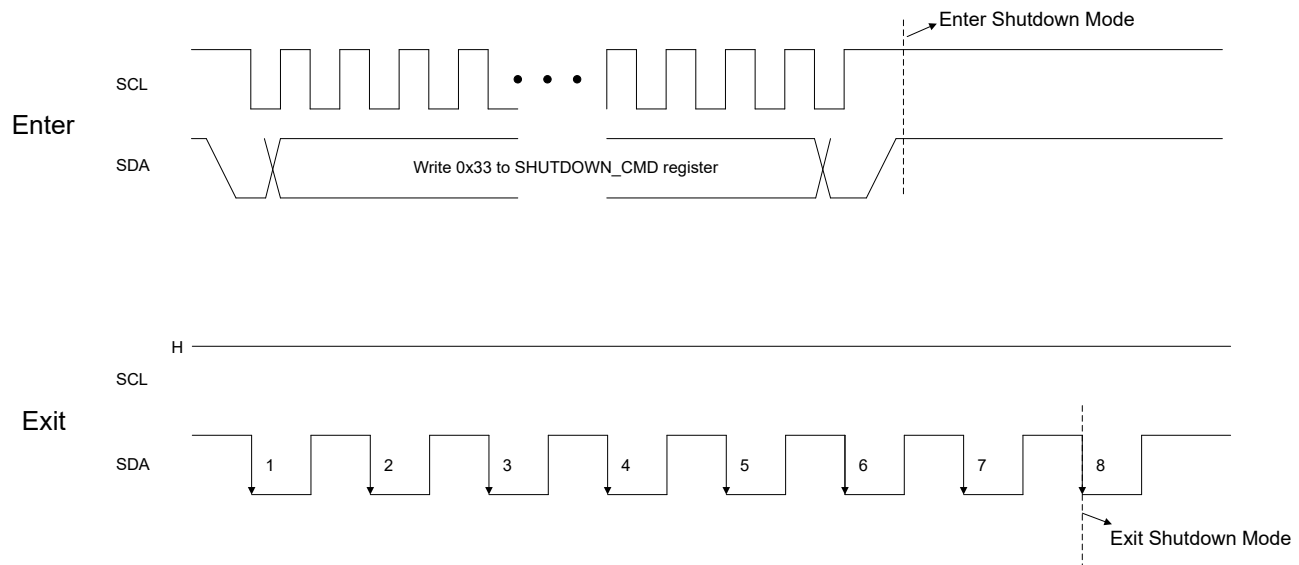

Figure 7-5. Enter and Exit Shutdown Mode Method Pair 1
- Figure 7-5 shows the method 1